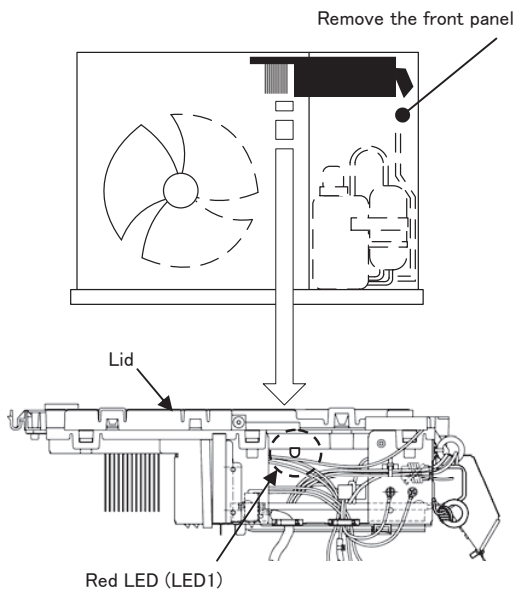

Fig.1 Location of LED
1. Exchange the PCB (Main) after checking that the red LED (LED1) on the PCB (Main) goes out for 10 seconds or more after elapsing 3 minutes or more from power OFF. (Refer to Fig.1)